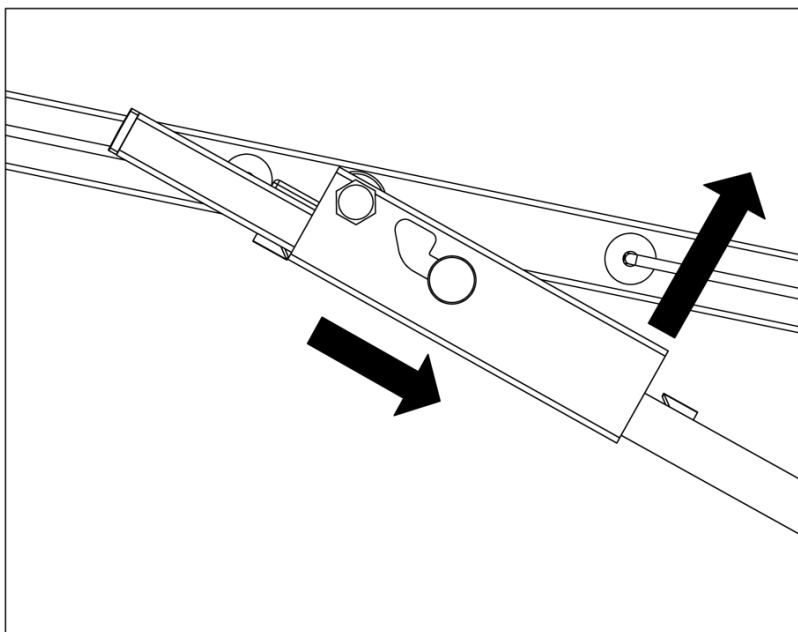

Fig 13. Catch rotating allowing catch slider to drop.
- The catch will grab onto the lower protrusion and rotate upwards allowing the catch slider to slide down the slot. (Fig.13)